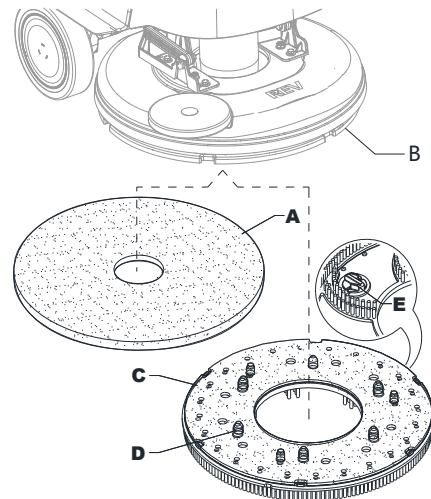

Figure 5
1. Make sure that the REV deck (41) is lifted.
2. Turn off the machine with the start/stop button (62).
3. According to the kind of cleaning to be performed, install the pad (A, Fig. 5) or the brush (C, optional) and note the following:
- Place the pad (A) under the deck and press it until it is fastened with the Velcro of the drive disc (B).
- Place the brush (C, optional) under the deck, and then match the centering pins (D) to the respective holes of the drive disc (B), and then engage the brush with the three mounting screws (E).